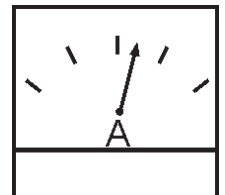

Figure 53. Ammeter (Load)
12. Observe the generator's ammeter (Figure 53) and verify it reads the anticipated amount of current with respect to the load. The ammeter will only display a current reading if a load is in use.